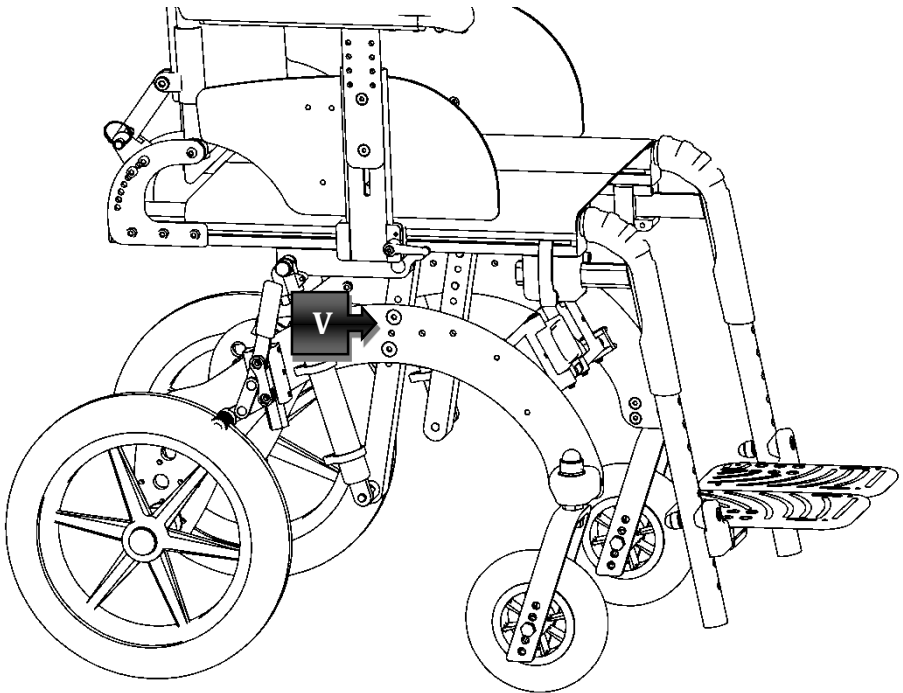

Figure 20
It is possible to make height adjustment of the seat simply by acting on the two screws (V) shown in Figure 20 on both sides.